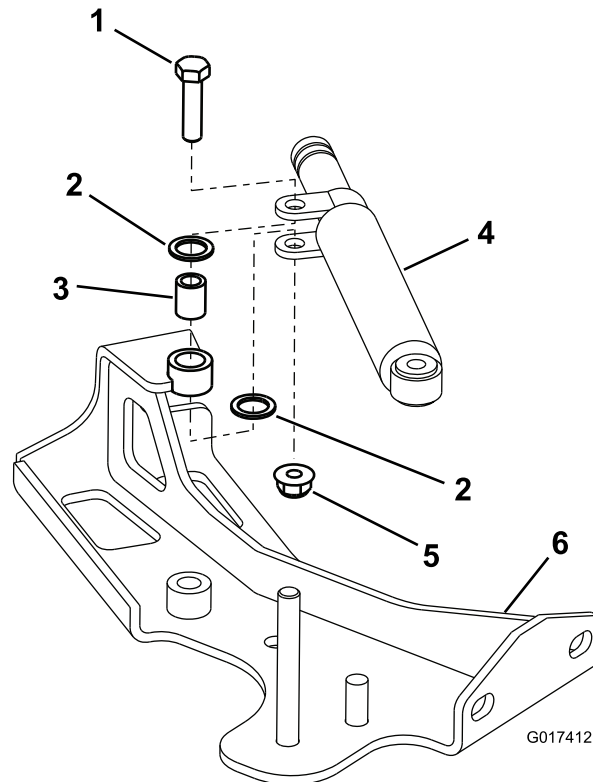
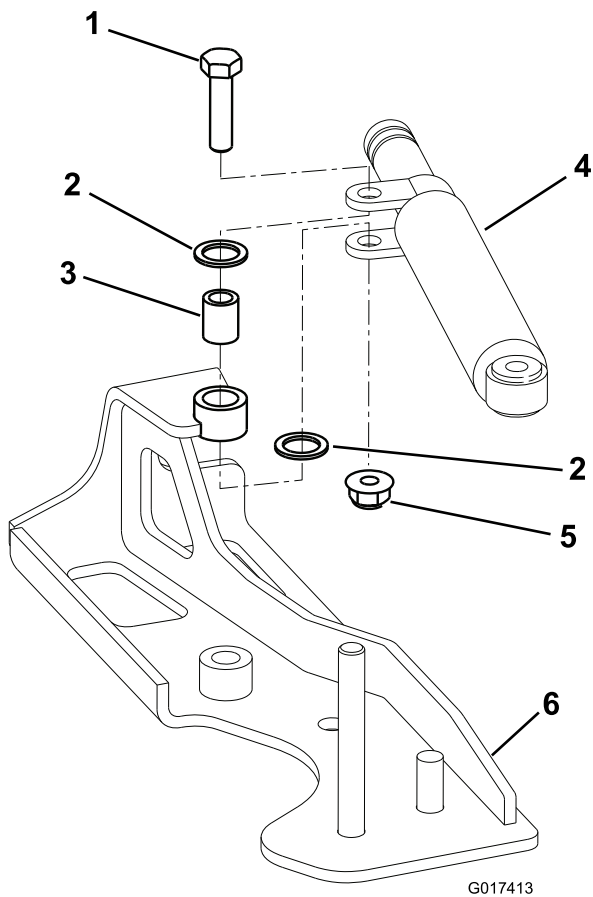

Figure 1
Figure 2
Note: Apply Never Seez (Toro part 505-181) onto the pivot bushing (Figure 1 or Figure 2).
2. Install the damper onto the new cable support plate as shown in Figure 1 or Figure 2.